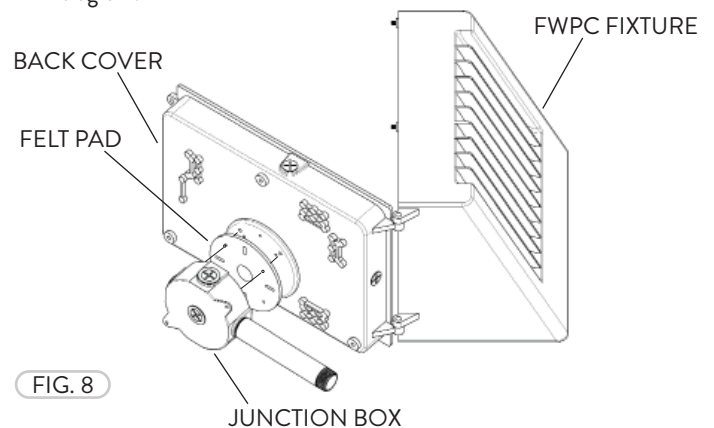

FIG. 8
- 3 Place the Felt Pad between the Junction Box and Back Cover. Fasten the Junction Box to the Back Cover of the FWPC fixture (Fig. 8). Apply sealant where necessary (Not included). Refer to wiring diagram.